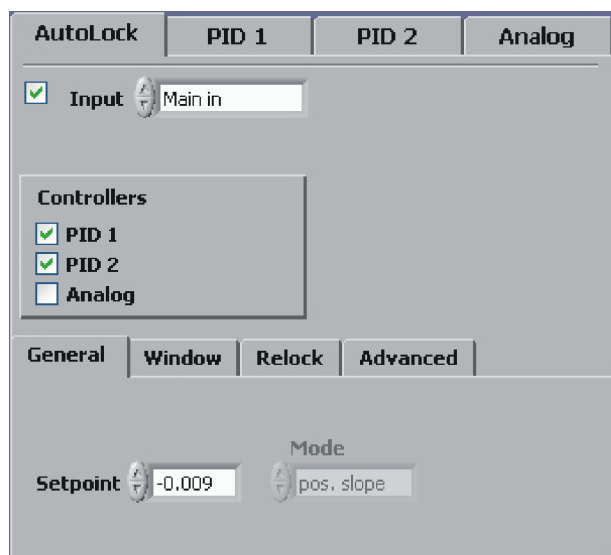

Figure 40 AutoLock setup for the PID controllers
15. First the **AutoLock** module is activated and the controllers **PID 1** and **PID 2** are selected by checking the corresponding boxes (see Figure 40). **PID 1** will handle the high frequencies (by controlling the laser current via the modulation option in the laser head) whereas **PID 2** will be responsible for the lower frequencies by controlling the piezo voltage. As input channel select <Main in> where the photodetector signal enters the module. In AutoLock mode the input channel chosen in the **AutoLock** tab (see Figure 11) is taken as input for all the selected controllers.